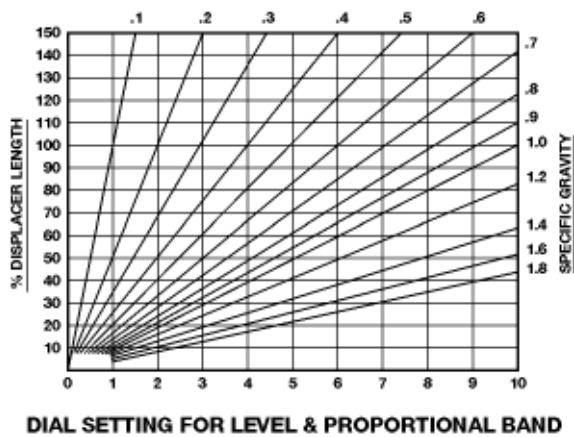

Figure 13
5. Set the level and proportional band for your application. Use calibration chart and instructions given in Figure 13 to select the level and proportional band dial settings based on the specific gravity of liquid to be measured.
3. Use the calibration chart, Figure 13, to select the level and proportional band initial settings, based on the specific gravity of the liquid to be measured.